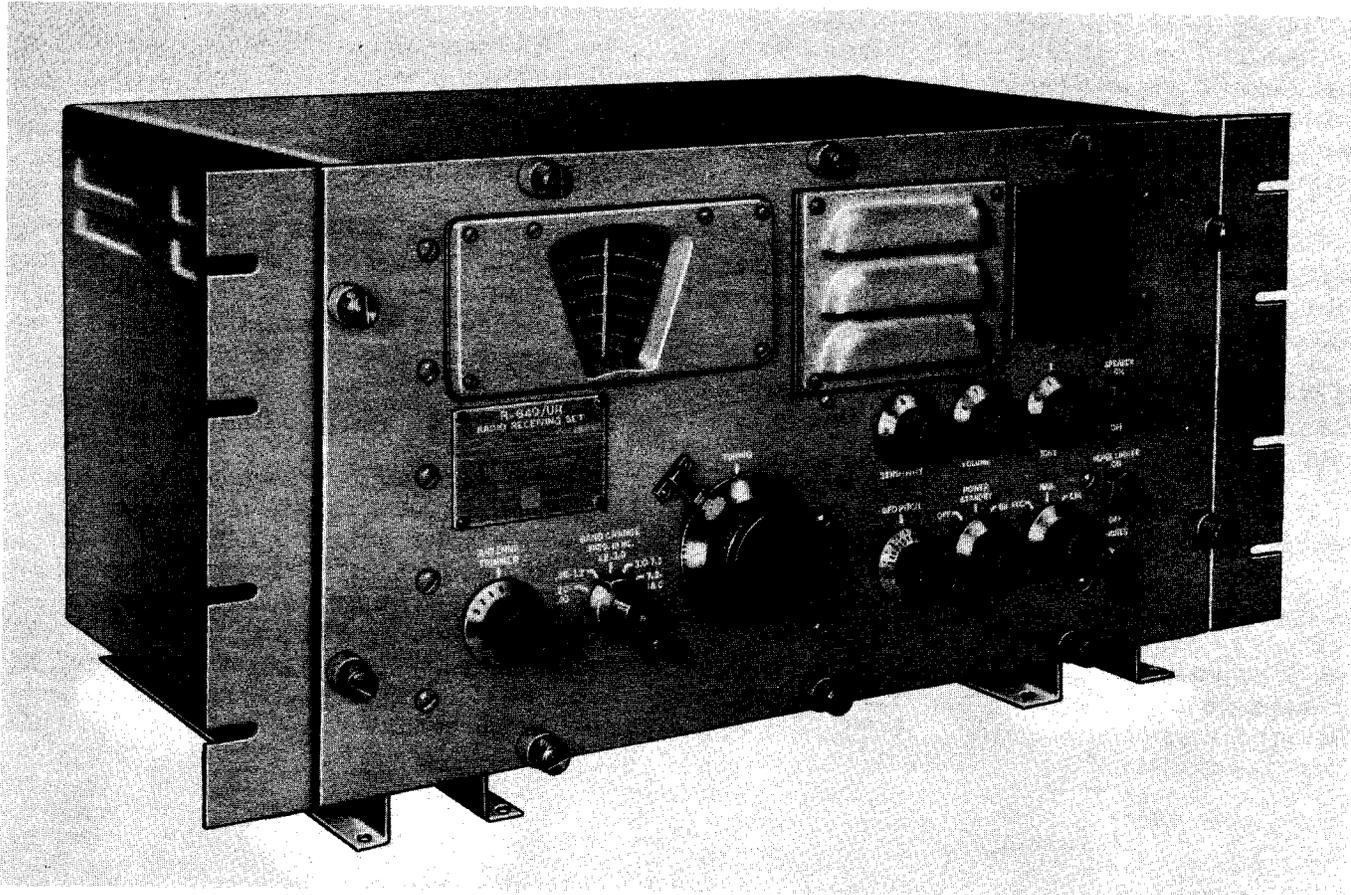

Figure 1-1. Radio Receiver R-649/UR
a. Radio Receiver R-649/UR (figure 1-1) described in this technical manual is intended to be used in ship and shore installations of the U.S. Coast Guard. The receiver provides coverage through portions of the low frequency, medium high frequency and high frequency ranges.